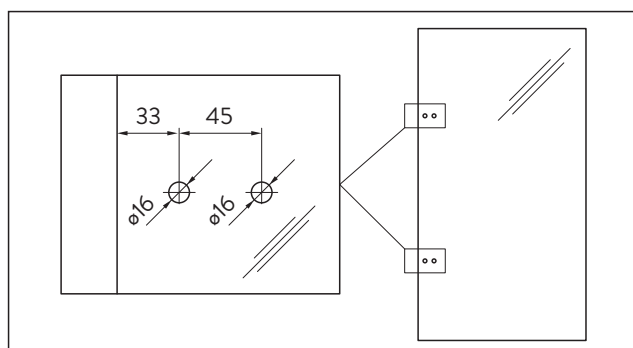

Abb. 16 Glass preparation
2. Check the dimensions of the glass door panel and the glass preparation details, see Fig. 16.